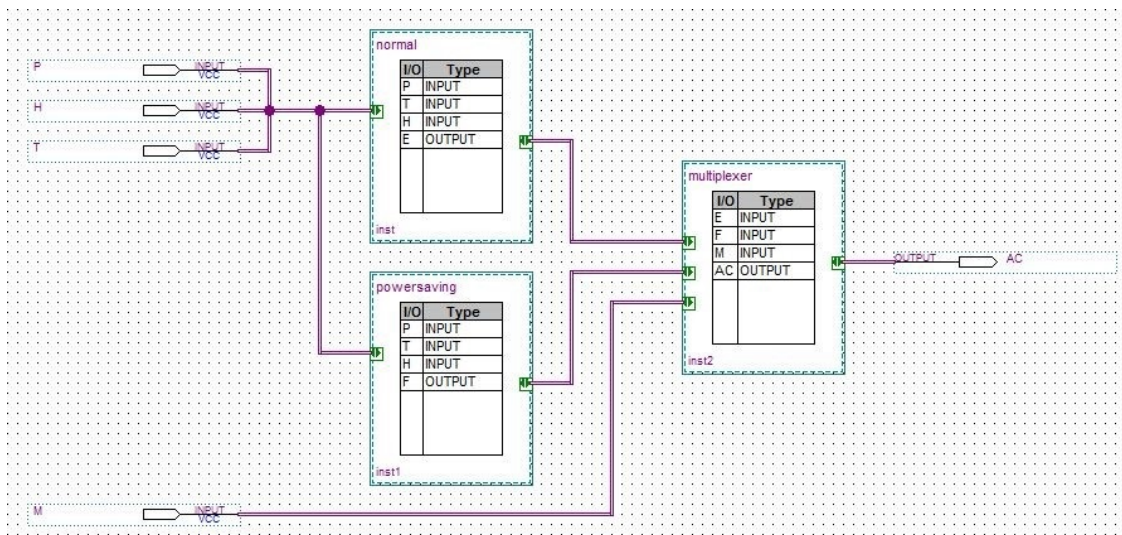

Figure 2: Final Layout of Lab4step2.
- Next, create the blocks that would represent the A/C components. Click on the block tool from the upper toolbar (see Figure 2). Left click anywhere on the blank block diagram file and drag your mouse. Repeat this process 2 more times. The three blocks would represent the components of your A/C system. Right click on the 1st block and click **Properties**, rename the block *normal*, click on I/O tab and enter P,T,H as inputs and E as the output. Repeat the same step for the other blocks. Make sure that the naming convention is same as mentioned in the problem statement above.
- Enter 4 inputs pins (P, H, T, M) and one output pin (AC) in the design file.